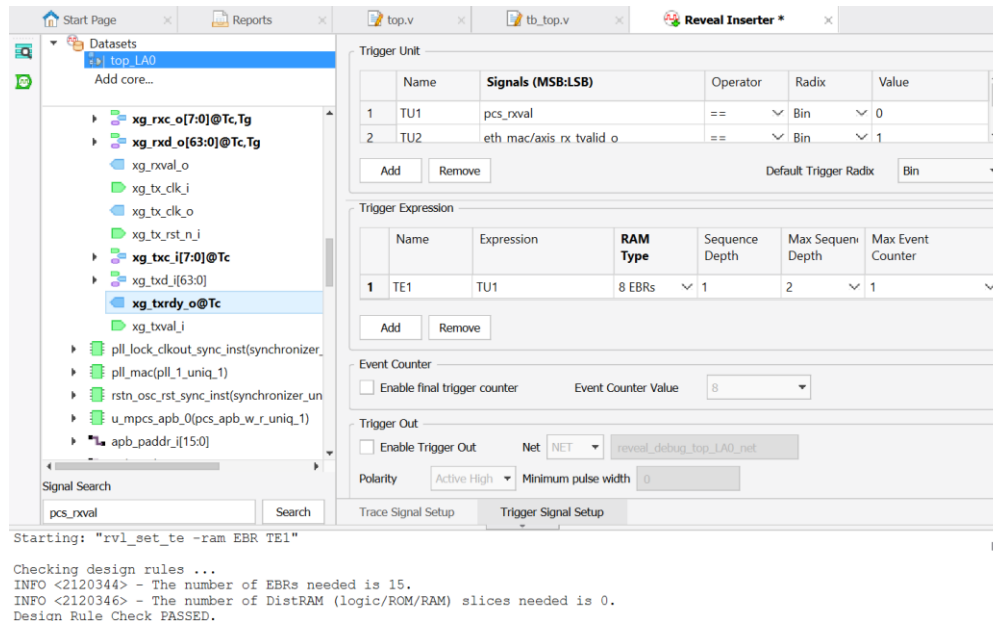

Figure 7.15. Trigger Signal Setup
- After adding the signals, set up the trigger signals in the **Trigger Signal Setup Tab** as shown in Figure 7.15. Click on the top left icon with a magnifying glass  to check if the design rule is passing and click on the  icon to insert the debug logic. This process generates and synthesizes the necessary debug logic. The generated .rvl is automatically imported into the Radiant software.